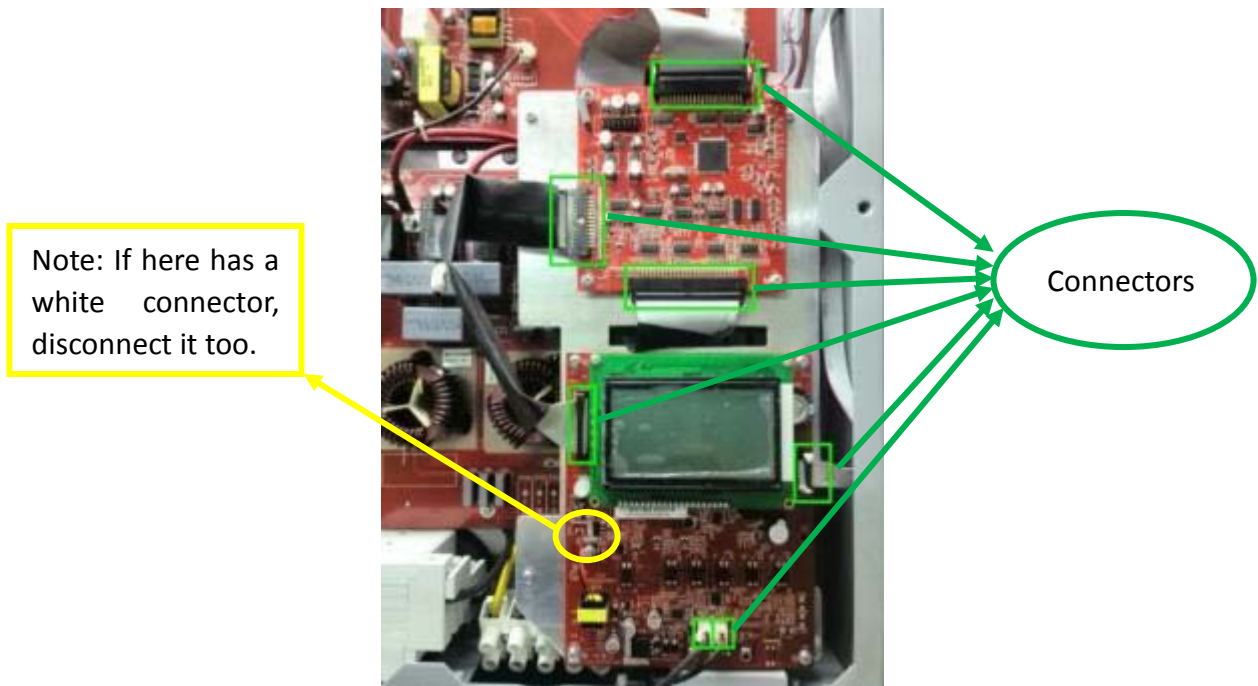

Fig.5.2.4 Connectors on control board and COM board
5) Remove the front cover, and disconnect the connectors shown as Fig.5.2.4.